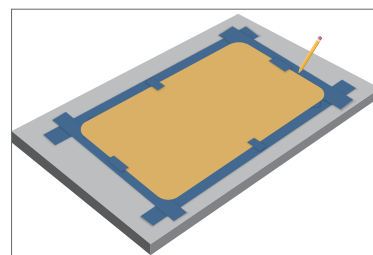

Fig. 6
- Tape the template to the area to secure in place while you carefully trace around the template with a marker. (see Fig. 6)